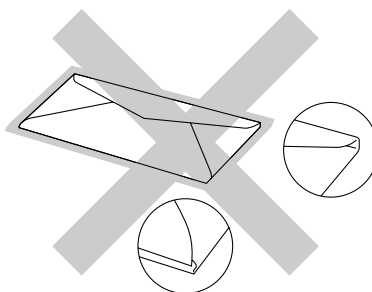

Figure 3
- with each side folded as shown in Figure 3